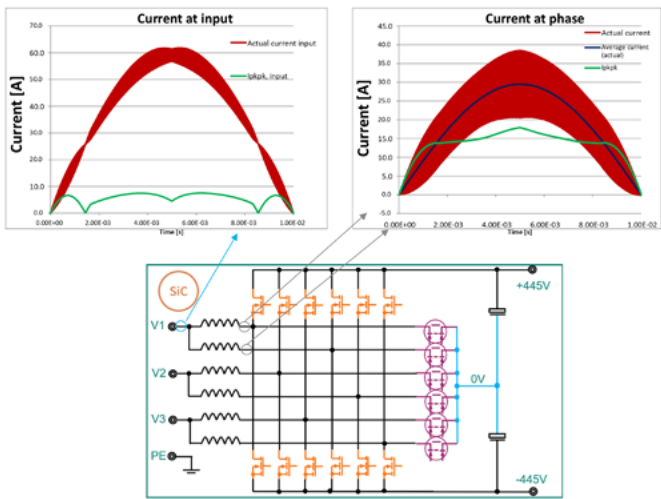

Figure 3: Interleaving rationale: phase current vs. input current, ripple reduction, and EMI implication
- **Manageable input filtering effort.** The presented design implements two CH270060GT cores with 28 turns for each of the interleaved stages. The switching frequency associated with each choke current is 72 kHz, while the effective ripple frequency per phase is 144 kHz. Figure 3 illustrates the effect of ripple cancellation at the phase current side. Leading to EMI filter reduction.